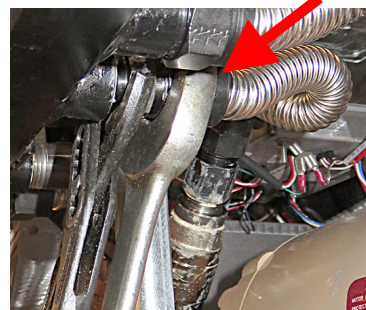

Figure 3
6. Disconnect the flexline from the previous step (see Figure 3).